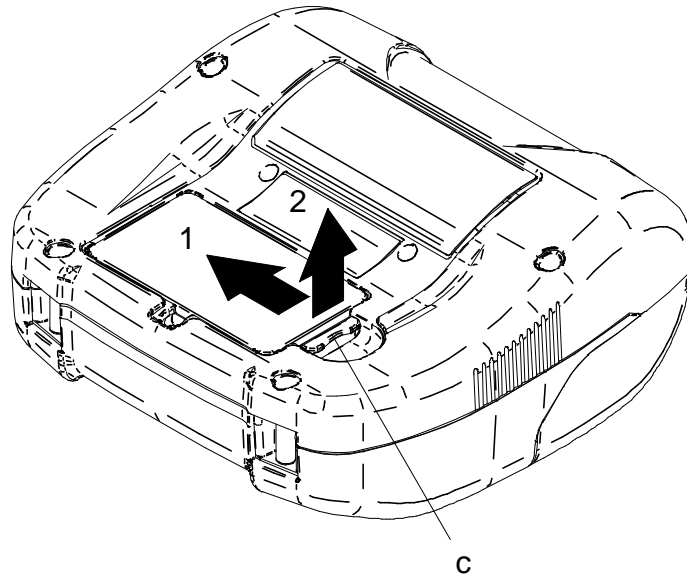

Figure 8-4 Removing the Battery Pack
- (1) Turn off the printer.
- (2) As shown in Figure 8-4, pressing the lever "c" of the battery pack in the direction of the arrow 1, remove it by pulling up in the direction of the arrow 2.